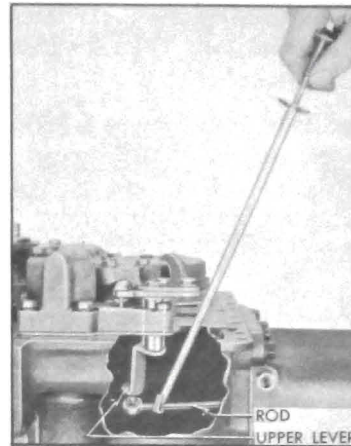

Figure 5-101—Connecting Valve Operating Rod to Upper Lever
7. Using Linkage Hook-Up Finger J 2591, position the socket of valve operating rod under the ball of valve upper operating lever and pull upward until ball snaps into the socket. See figure 5-101.